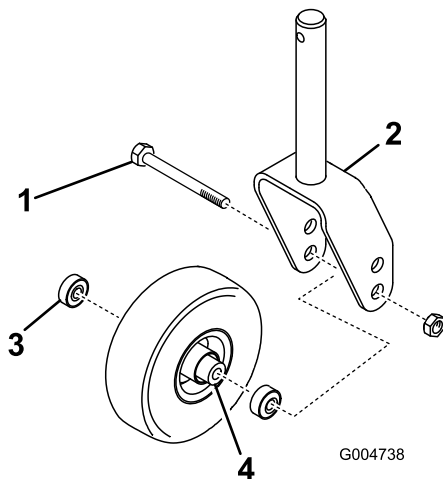
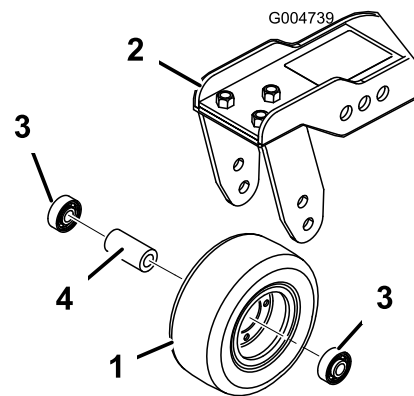

Figure 83
Figure 84
1. Remove the locknut from the bolt holding the caster-wheel assembly between the caster fork (Figure 83) or the caster-pivot arm (Figure 84).
2. Remove the bearing from the wheel hub and allow the bearing spacer to fall out (Figure 83 and Figure 84).